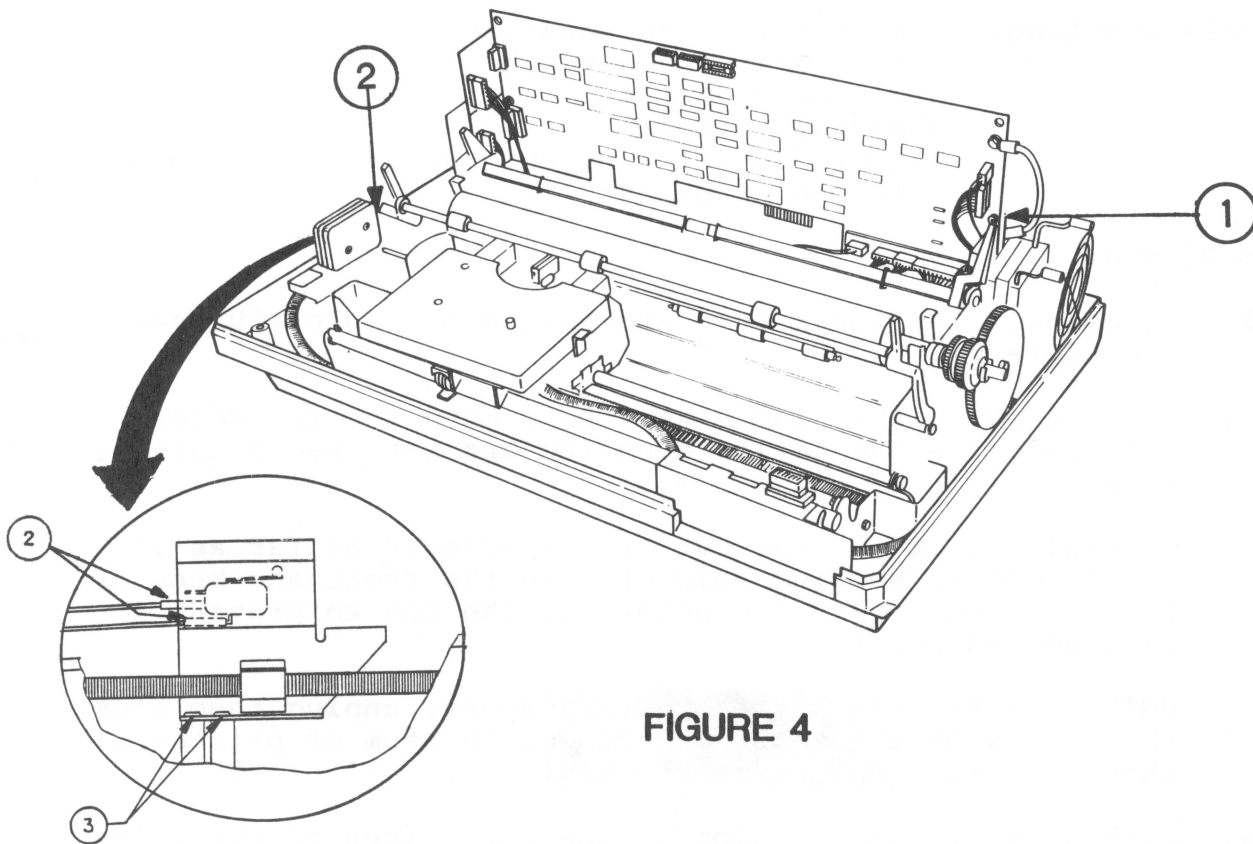

FIGURE 4
- \*2. Disconnect the ground wire from the back plate of the case (see Figure 4, #1).
- \*4. Remove the two spade connectors from the cover interlock switch (Figure 4 and detail, #2), using needlenose pliers or a flatblade screwdriver if necessary.
- \*7. (Optional but recommended) Remove the two screws that hold the cover interlock switch to the printer case and remove the switch (see Figure 4, detail, #3). (This is not possible on some models of the DWP.)